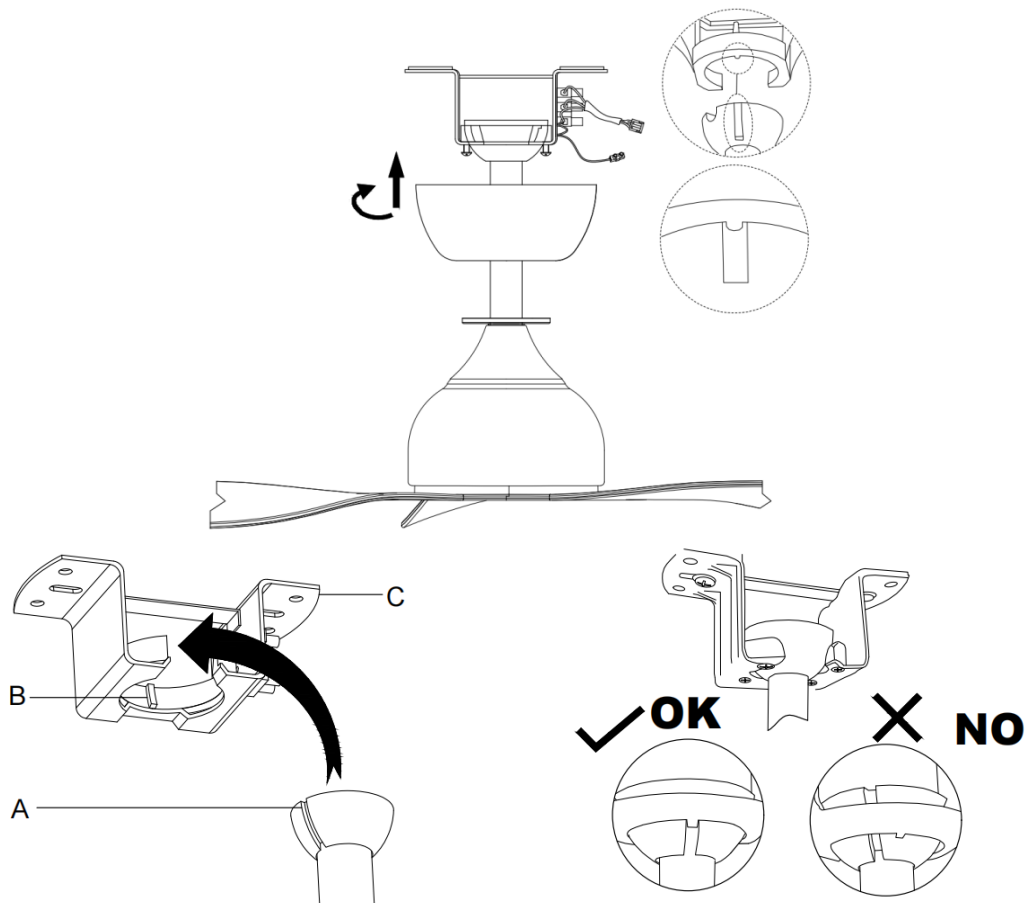

Fig. 12
Lift the fan assembly onto the mounting bracket. Ensure the key slot of the hanger ball is positioned on the key pin (B) of the mounting bracket (C) to prevent the fan from rotating when in operation. **(Fig. 12)**